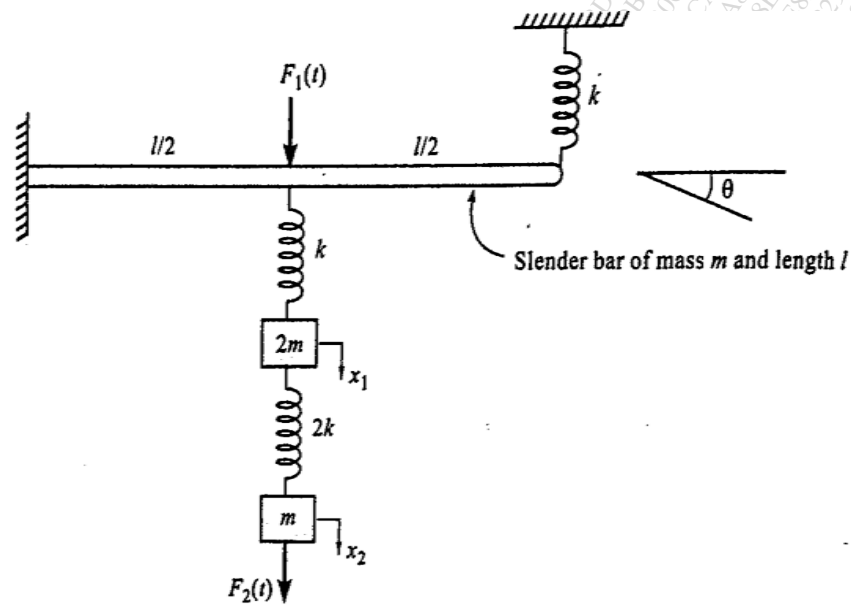

Figure 3
- Q3.a Derive the equations of motion using Lagrange's method for the system shown in Figure 3 below. (8)